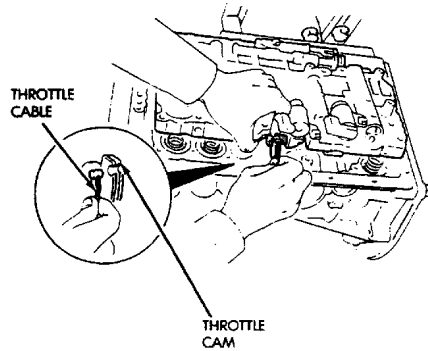

Fig. 12 Removing Throttle Cable
(17) Disconnect throttle cable from throttle cam (Fig. 12).